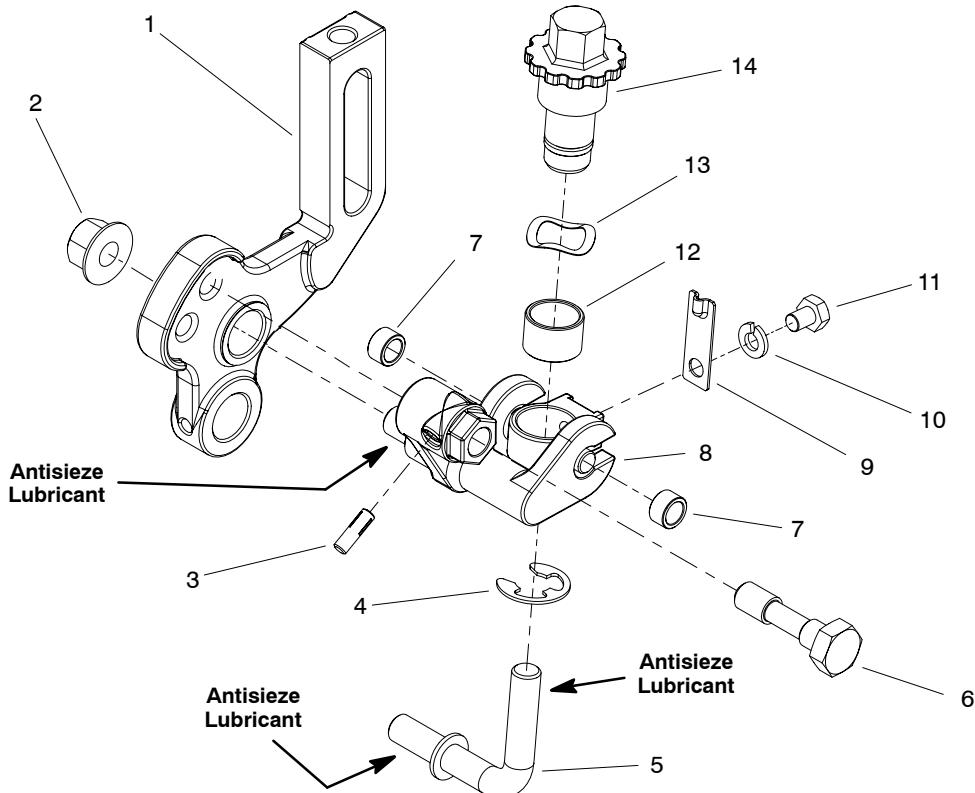

Figure 17
2. Disassemble groomer arm using Figure 17 as a guide.
NOTE: Right and left side HOC groomer arms and lift arm assemblies are different; other components shown in Figure 17 are the same on both sides of machine.
1. Apply antisieze lubricant to threads of groomer lift rod (item 5) and lift arm assembly (item 8). Assemble groomer arm using Figure 17 as a guide.